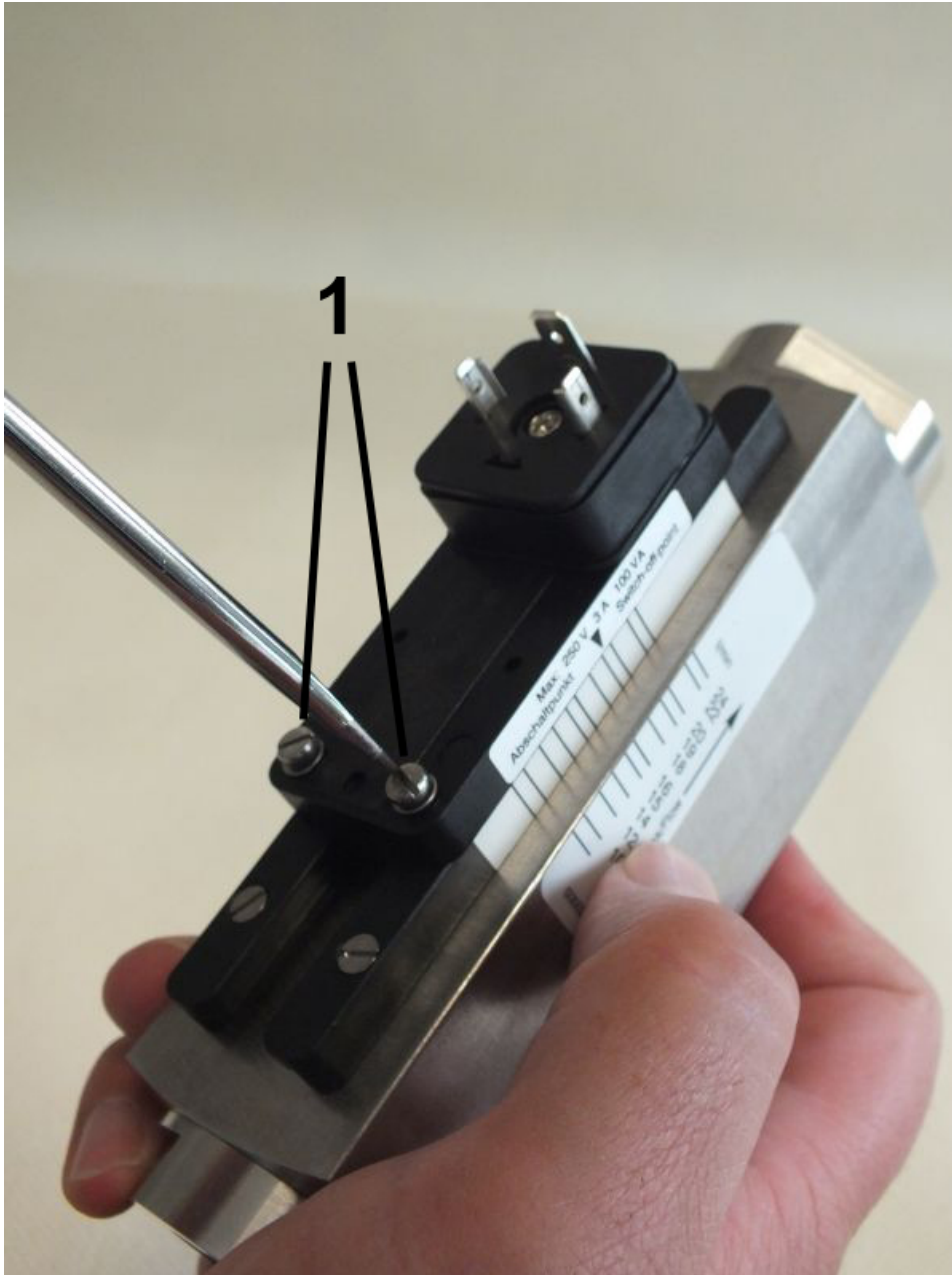

Fig. 60: Loosen set screws
- 3.** ➤ Using a flat-bladed screwdriver (*Fig. 60/01*) loosen the set screws of the switch contact until it moves freely
11. ➤ Tighten the set screws (*Fig. 60/01*) observing the tightening torque of the screws (➔ *Chapter 11.1 "Tightening torque" on page 92*)